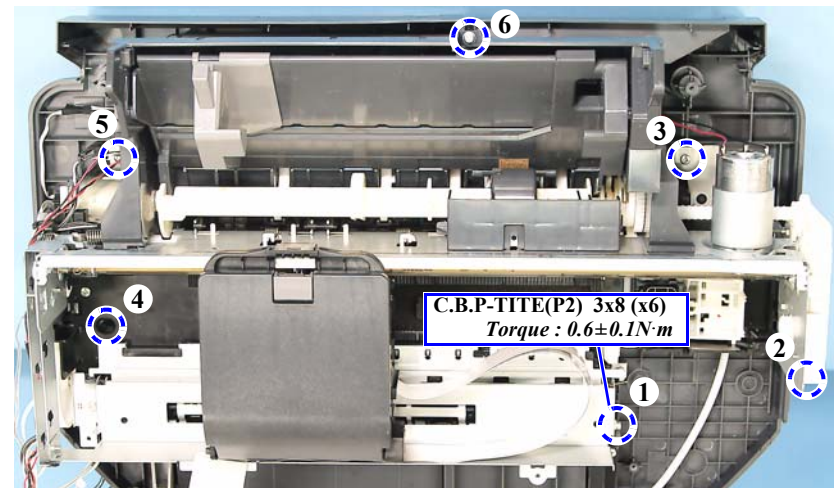

Figure 4-37. Removing the screws (Printer Mechanism Assy)
7. Remove the screws (x6) securing the Printer Mechanism Assy. (Fig. 4-37)
- Tighten the screws in the specified order. (Fig. 4-37)